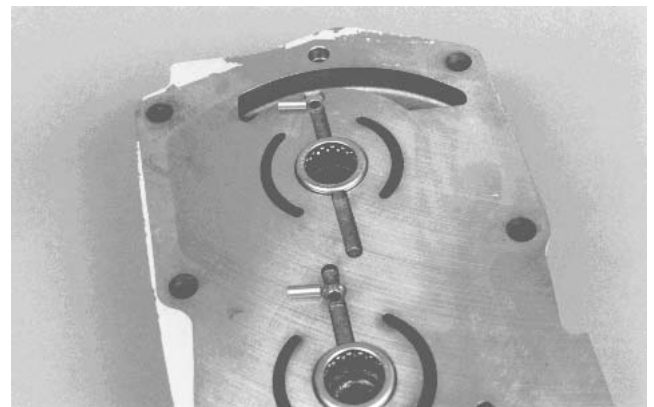

Figure 42
6. Remove valve plate pins from the center section (Fig. 42).